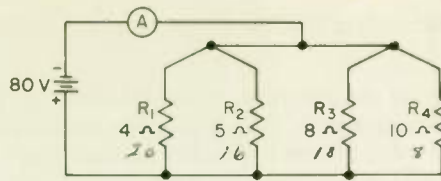

Fig. 7
3. The ammeter in Fig. 7 reads 54 amperes.
4. In Fig. 7 the voltage across R_1 is (a) 80 volts, the voltage across R_2 is (b) 80 volts, the voltage across R_3 is (c) 80 volts, and the voltage across R_4 is (d) 80 volts.